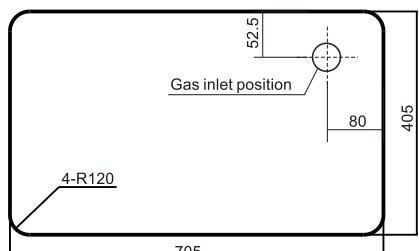

Fig. 7 (in mm)
- Cut the opening in the bench top by the cardboard-template given in the hob packing or to the dimensions shown in Fig 7.
- Install the hob in the cut-out. (Fig 7)